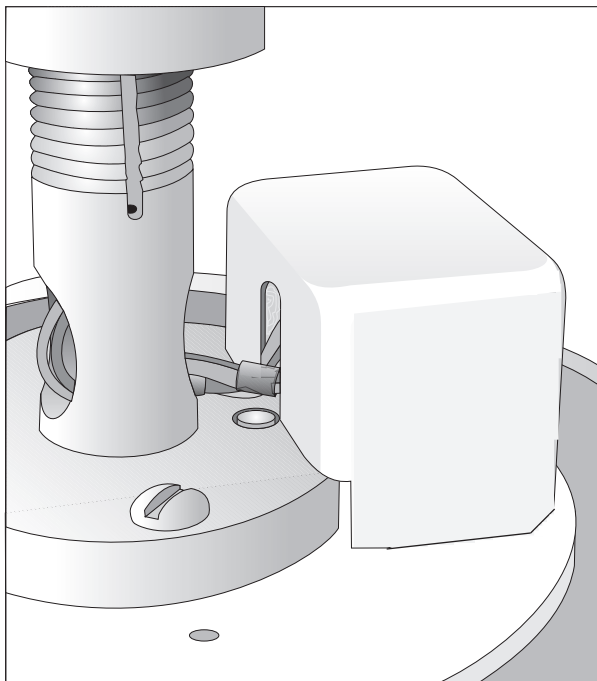

Figure DTA.9
9. Replace the connector cover, making sure that the wires are not pinched under the edges of the cover. The wires should protrude out of the slot in the back of the cover, as shown in Figure DTA.9.